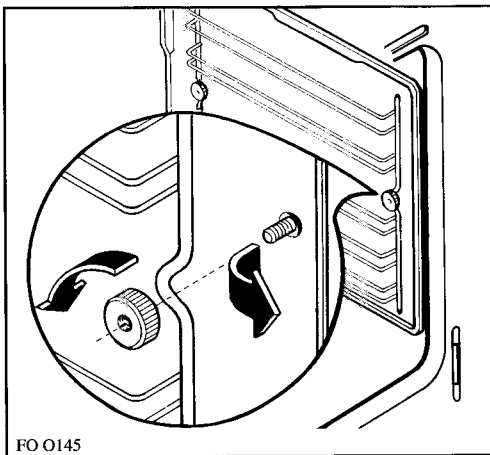

Fig. 6
1. Unscrew the ring nuts, securing the side runners, and remove the runners (Fig. 6).